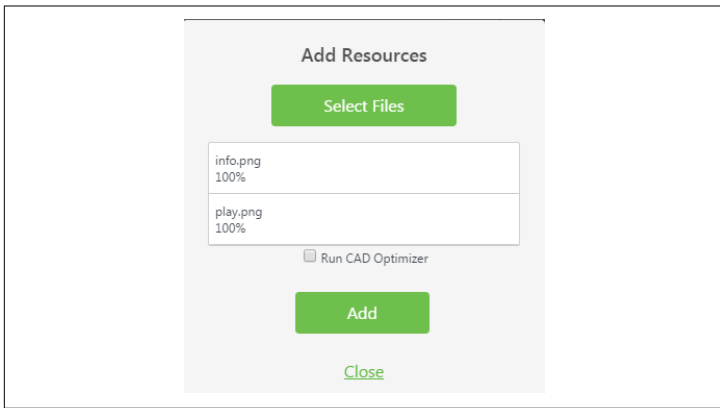

Figure 3-15. Adding a 2D resource
6. On the Add Resources window, click Add and then click Close (Figure 3-15).